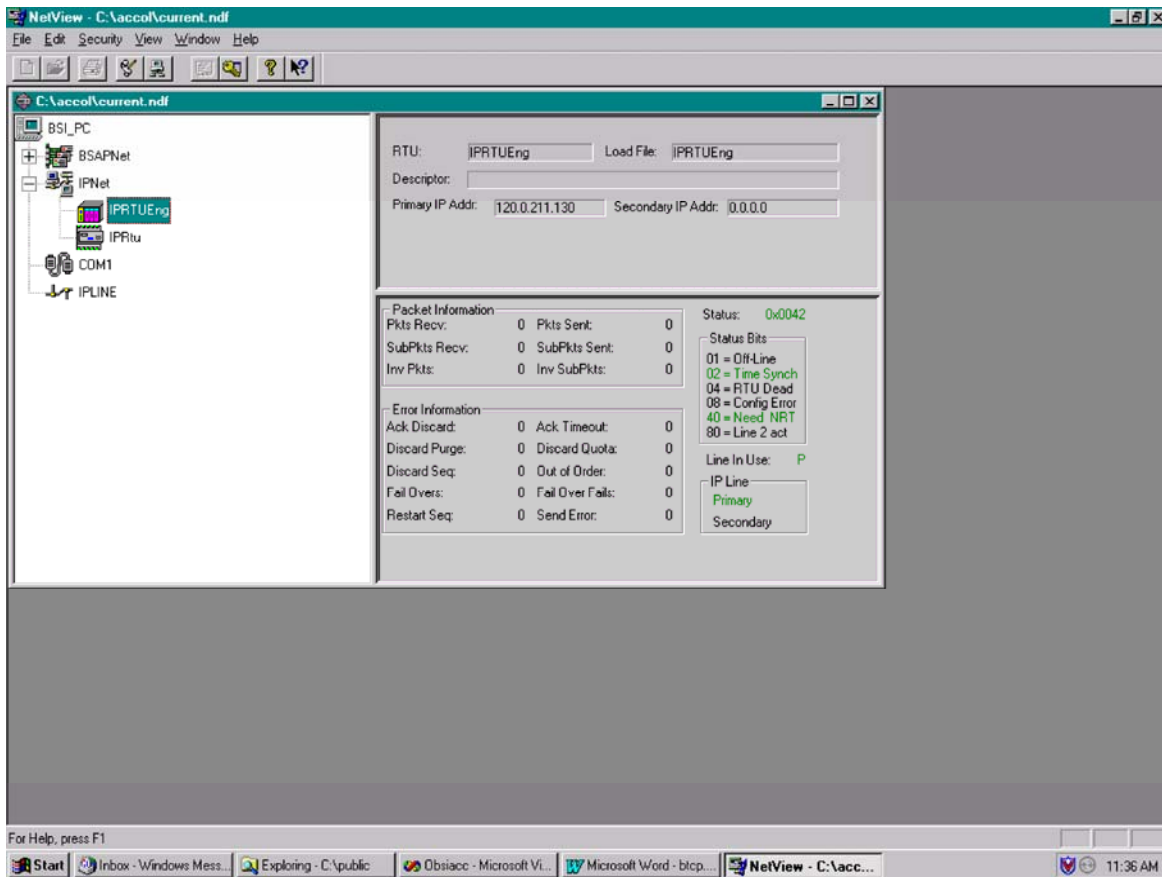

Figure 3-6 – NetView - Example with Multiple Networks
1. Start the OpenBSI NetView Program. A screen similar to Figure 3-6 will appear.